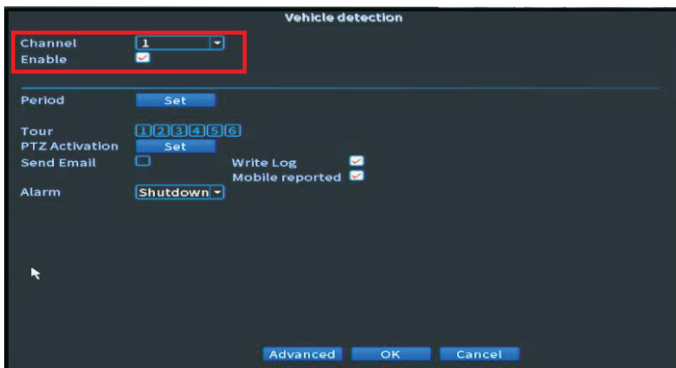

Figure 12. Select Channel No. (Camera No.). Click "Enable" check box.
19. Click the "Enable" check box and select the Channel number with Vehicle Detection function. See Figure 12.